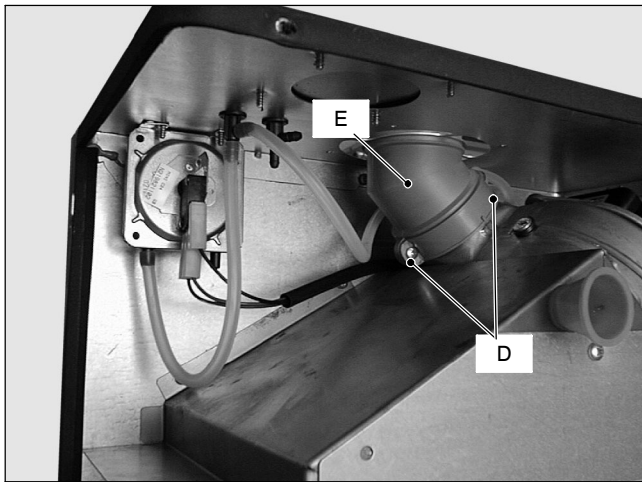

Fig. 4
- 4 Unscrew the screws *D* and remove the clamp *E* (Fig. 4).